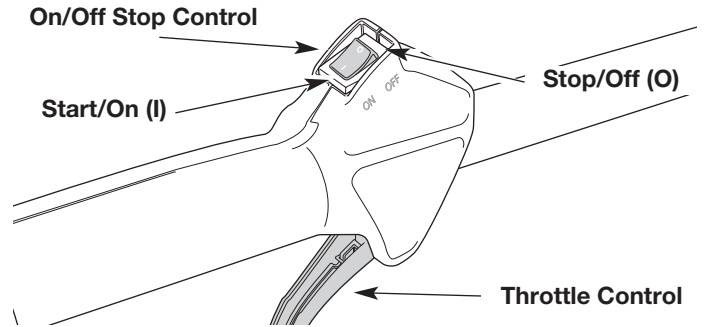
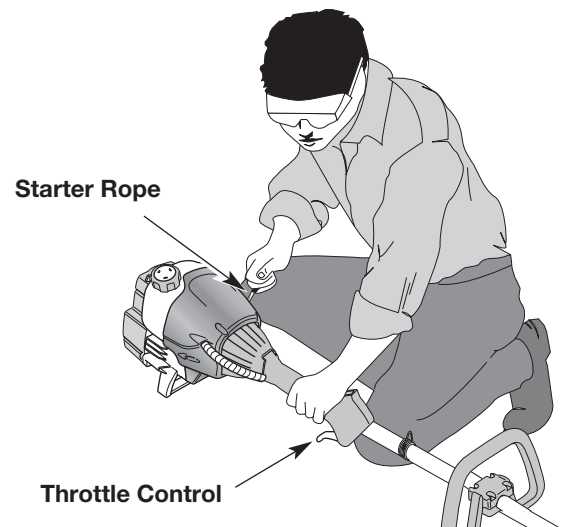

Fig. 3
Fig. 5
2. Put the On/Off Stop Control in the **ON (I)** position (Fig. 3).
5. With the unit in the starting position (Fig. 5). **DO NOT SQUEEZE THE THROTTLE CONTROL.** Pull the starter rope briskly 5 times in the with the EZ-Start™ lever pushed to the left. If the engine starts to run before the fifth pull, proceed to step 7.
NOTE: If the engine floods while trying to start. Squeeze the throttle control (Fig. 3). Pull the starter rope briskly. The engine should start within three (3) to eight (8) pulls.
NOTE: If engine stalls while squeezing trigger, continue to squeeze trigger and pull starter rope until the trimmer starts. (Fig. 5)
NOTE: Choking is unnecessary when starting a warm engine. Put the On/Off Stop Control in the **ON** position (Fig. 3), squeeze the throttle and pull the starter rope briskly. (Fig. 5).
1. Release your hand from the throttle control (Fig. 5). Allow the engine to cool down by idling.
2. Put the On/Off Stop Control in the **OFF (O)** position (Fig. 3).